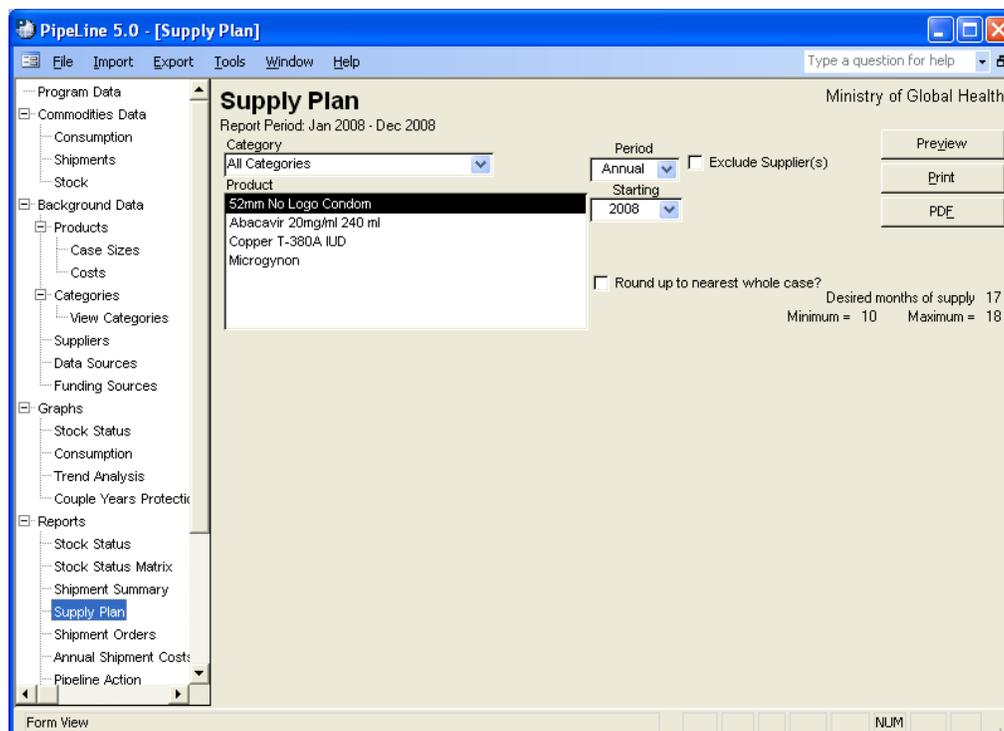

Figure 28—Supply Plan screen
1. Click on the Supply Plan Tree View option (under Reports) to display the Supply Plan screen (see Figure 28).